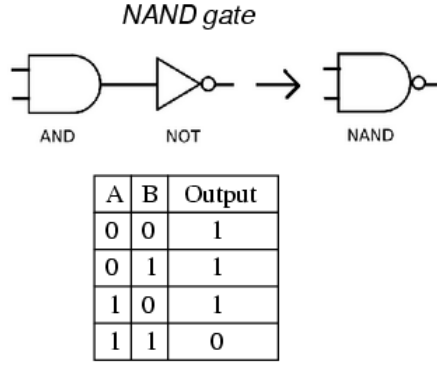
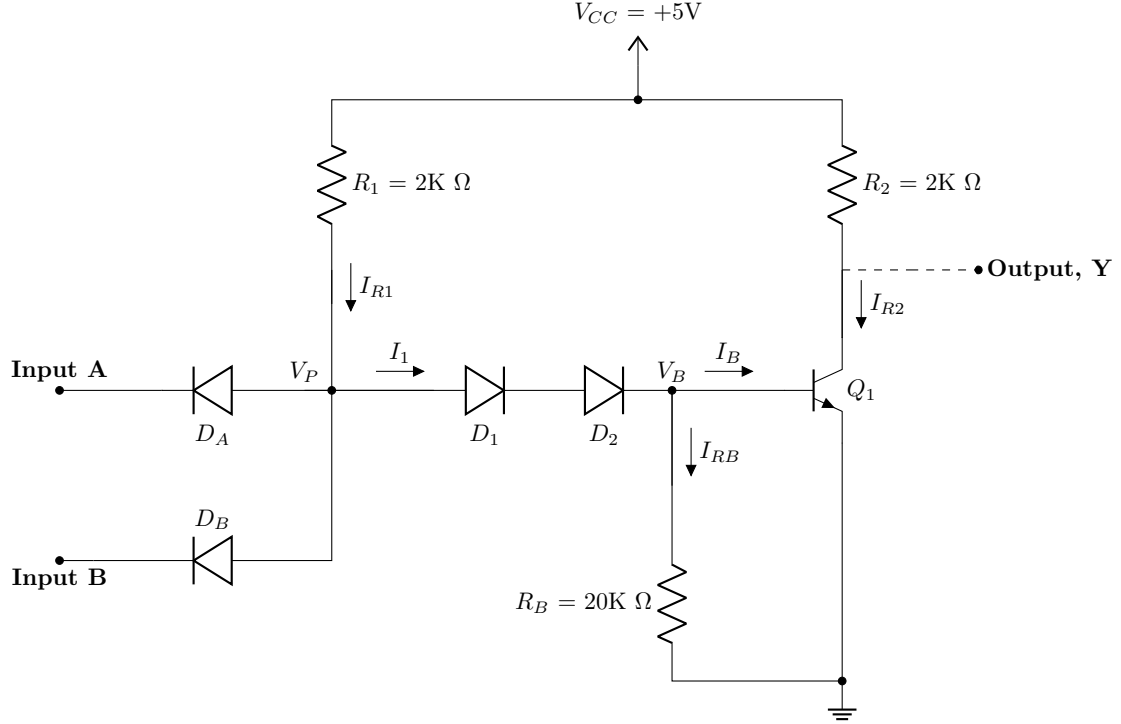

Figure 1: NAND gate Truth Table
Figure 2: Diode Transistor Logic (DTL)
In this task, we will implement a Diode Transistor Logic (DTL) NAND gate. As can be seen in Fig. 1, a 2-input NAND gate outputs a logical HIGH if at least one of the inputs is LOW. Otherwise, the output of the NAND gate is logical LOW. It can be created by passing the output of a AND gate through an Inverter or NOT gate. One can build all other logic gates using such NAND gates. The DTL implementation of a NAND circuit is shown in Fig. 2.
On the input side of Fig. 2, we can see two diodes in reverse bias connection with respect to input - this acts as an AND gate circuit according to diode logic. The output of this AND gate is fed to the inverter input  $V_B$  (base terminal of BJT  $Q_1$ ) through the diodes  $D_1$  and  $D_2$  creating the NAND circuit. The output is obtained at the collector terminal of  $Q_1$ .
As mentioned in the previous task, when either of the input terminals are HIGH, the corresponding diode operates in the reverse bias region - meaning it is virtually disconnected from the circuit. So we can say that if one of the inputs are set to logical HIGH, we can ignore that diode altogether, and the remaining diode input acts as a single input to the RTL inverter. Thus the resulting circuit acts as an inverter circuit (NOT gate). A roundabout way of explaining this is via the truth table of the NAND gate (Fig. 1) - when one input is set to HIGH, the output follows the inverted logic of the remaining input.
1. Connect the circuit as shown in Fig. 2.
3. Operate the gate in Fig. 2 as an inverter by connecting either of the inputs to +5V and using the remaining one as input terminal. Fill up table-2.
2. Assume that the **output** of the circuit shown in Fig: 1 is **LOW**. Draw the partial circuit consisting of only those components which remain active.